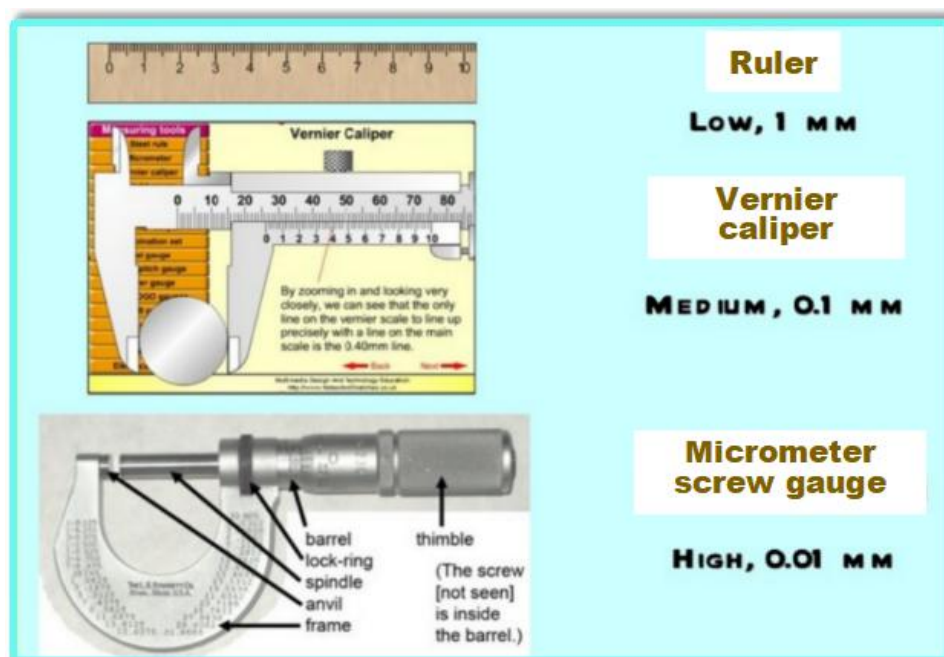

Figure 1.5 Examples of instruments with their respective degree of sensitivity
- **Figure 1.5** shows several examples of instruments with their respective degree of sensitivity.